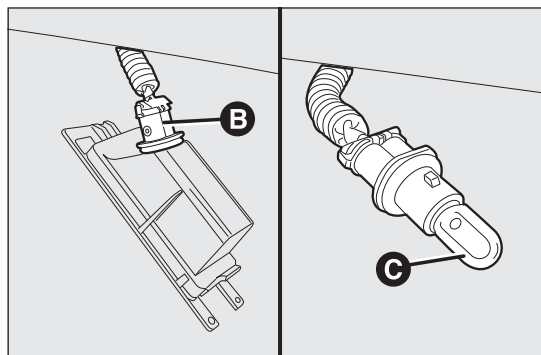

fig. 147
- ❑ turn the bulb holder B fig. 147 anticlockwise and then remove the bulb C.